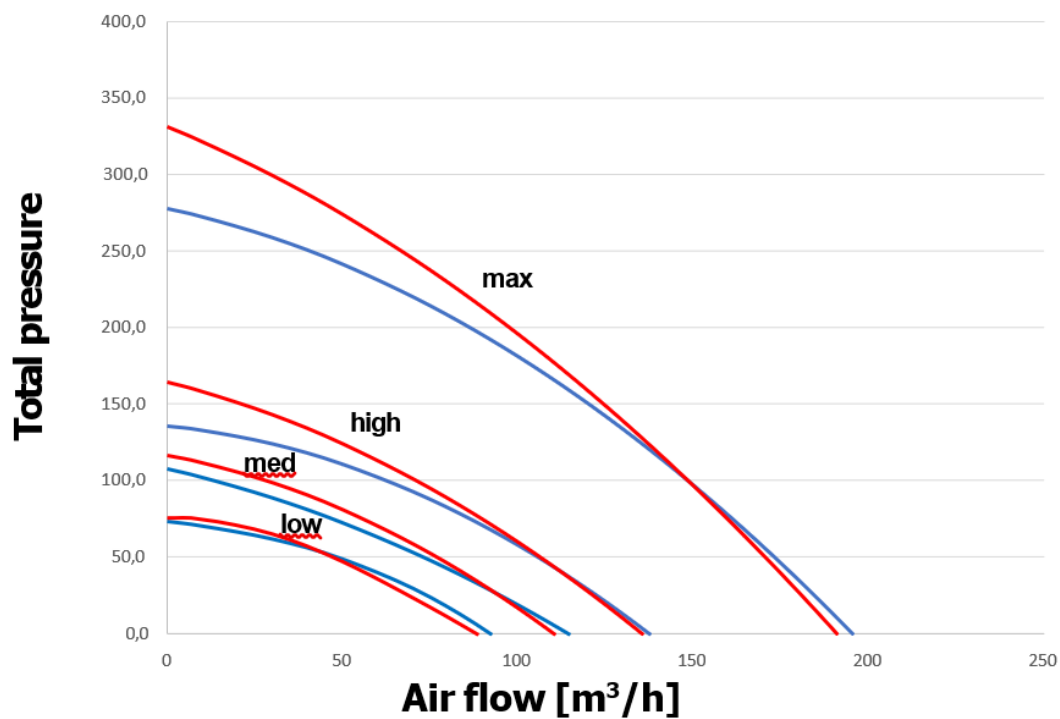

Figure 11. Total pressure for HRU-FlatAIR-150E
- HRU-FlatAIR-150E-H 150 m³/h (at 100 Pa) [Fig. 11]